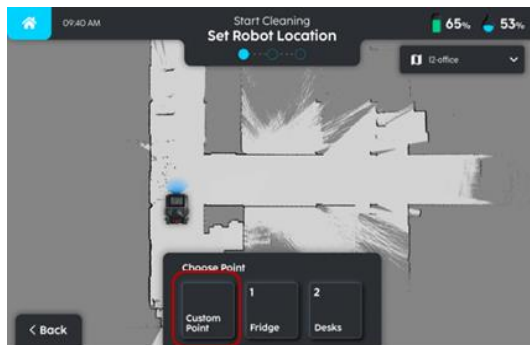

FIGURE 3-17
1. If robot is not localized, select a point closest to the robot to initiate localization process (Fig. 3-17).